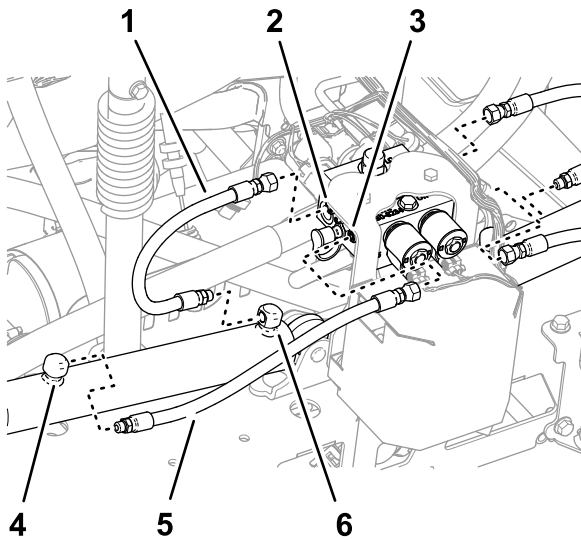

Figure 43
1. Remove the hoses from the extend ports of the left and right lift cylinders (Figure 43).
2. Remove the hoses from the ports of the C2 and C4 of the lift-cylinder manifold (Figure 43).
3. Remove the hoses from the retract ports of the left and right lift cylinders (Figure 43).
4. Remove the hoses from the ports of the C1 and C3 of the lift-cylinder manifold (Figure 43).